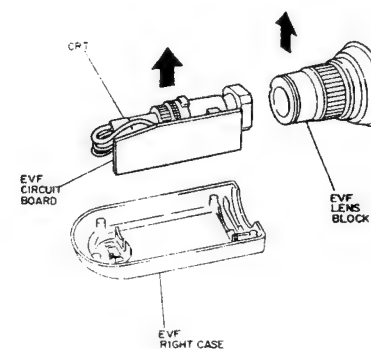

Fig. 2-122
- 1) Remove the EVF circuit board, CRT and EVF lens block from the right case in the direction of the arrow. (See Fig. 2-122)